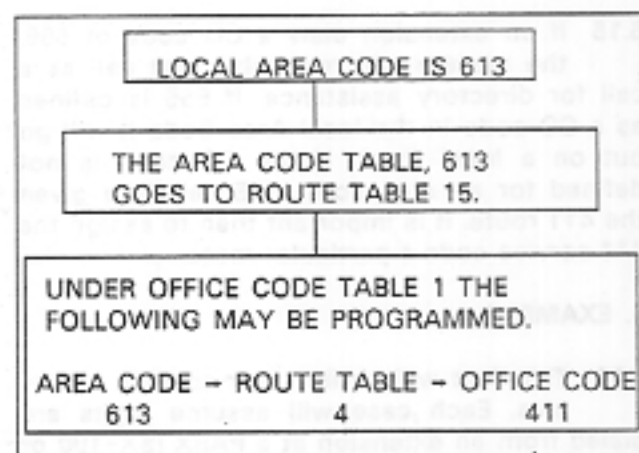
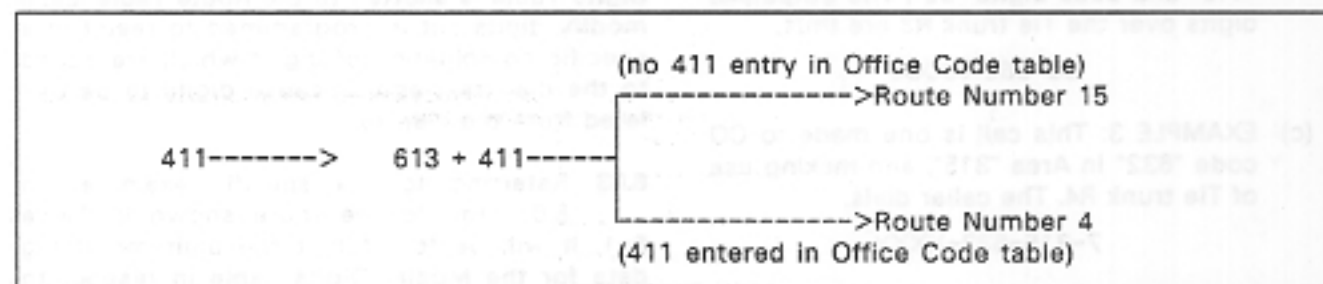

Fig. 5-2 Service Codes
Fig. 5-3 411 Entry
5.11 The Route Table used for the service call is chosen in exactly the same way as with any other local call. This is done by using 411 as an office code in programming an Office Code Table. Hence if the local area code is 613, programming 411 as an office code in a table tied to 613 causes the system to use the associated route table specified (Fig. 5-2). Upon a user dialing 411, the system finds that 411 is a service code and uses 613 as the area code to search for a Route Table to use (Fig. 5-3).